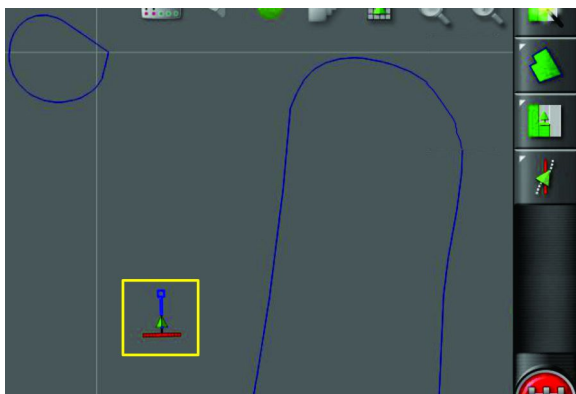

Figure 39
1. Drive the machine to the active field for job site (Figure 39).